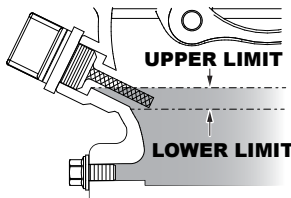

Figure 5. Engine Oil Dipstick (Oil Level)
4. If the oil level is low (Figure 5), fill to the edge of the oil filler hole with the recommended oil type as listed in Table 5. Refer to Table 2 for maximum engine oil capacity.